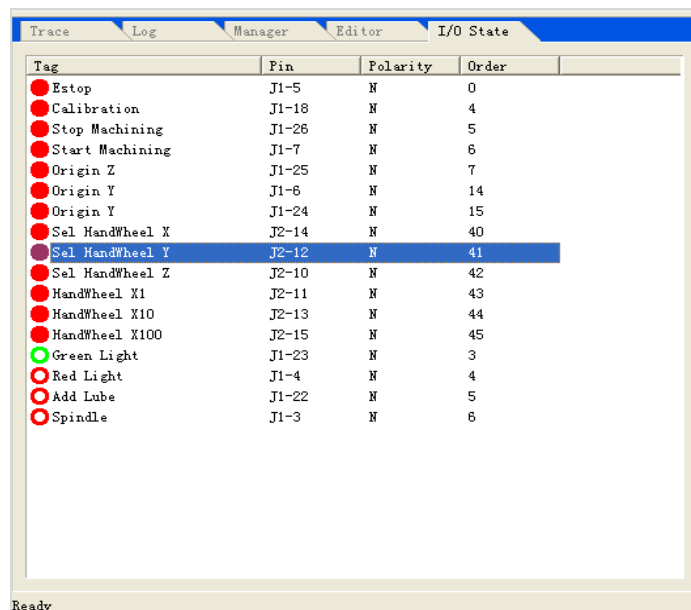

Fig. 4-2 [I/O State] Interface in NcStudio V8
- 2) Power on the computer and run NcStudio, and then switch to interface [I/O State] in NcStudio V8 as shown in Fig. 4-2, or to [IOPort] interface in NcStudio V9 as shown in Fig. 4-3. The screenshots are for reference only. Input and output signals are displayed in the interfaces. Ports displayed vary with software version and hardware (terminal board). The actual situation is in line with shipment. Solid dots represent input signals, while hollow dots output signals; dots in red indicate the signals are invalid at the time (with no input or output), while dots in green indicate the signals are valid at the time.